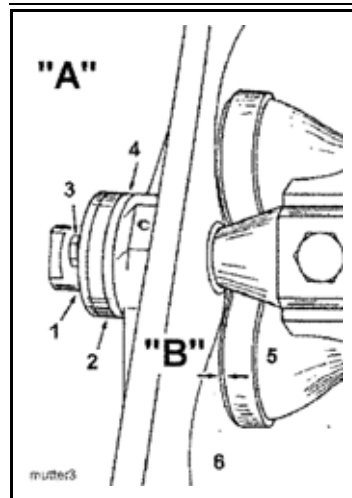
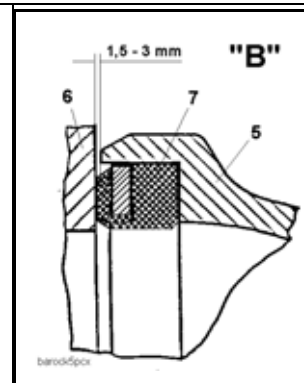

Fig. 339
Fig. 340
A	See detailed view (Fig. 339)
B	See detailed view (Fig. 340)
No air gap may be visible between the bearing bushing (4), the locking wheel (2) and the adjusting nut (1) (Fig. 339), even during operation.
There must be a measurable distance of distance of 1.5 to 3.0 mm between the swivel head (rock) (5) and housing lining (6) while the kidney seal (7) is in contact with the housing lining (6) (Fig. 340).
Caption for (Fig. 339) and (Fig. 340)
- Remove safety screw (3) (Fig. 339) together with disc.
- Set distance "B" = 1.5 to 3.0 mm using the adjusting nut (1).
- Align the bore in the collar of the adjusting nut with the nearest threaded bore in the locking disc (2) (rotate the nut forward or backward).
- Attach safety screw (3) with disc.